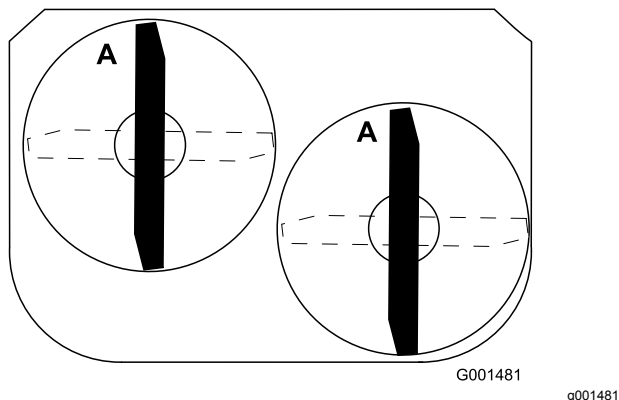

Figure 49
3. Rotate the blades until the ends face forward and backward (Figure 49).